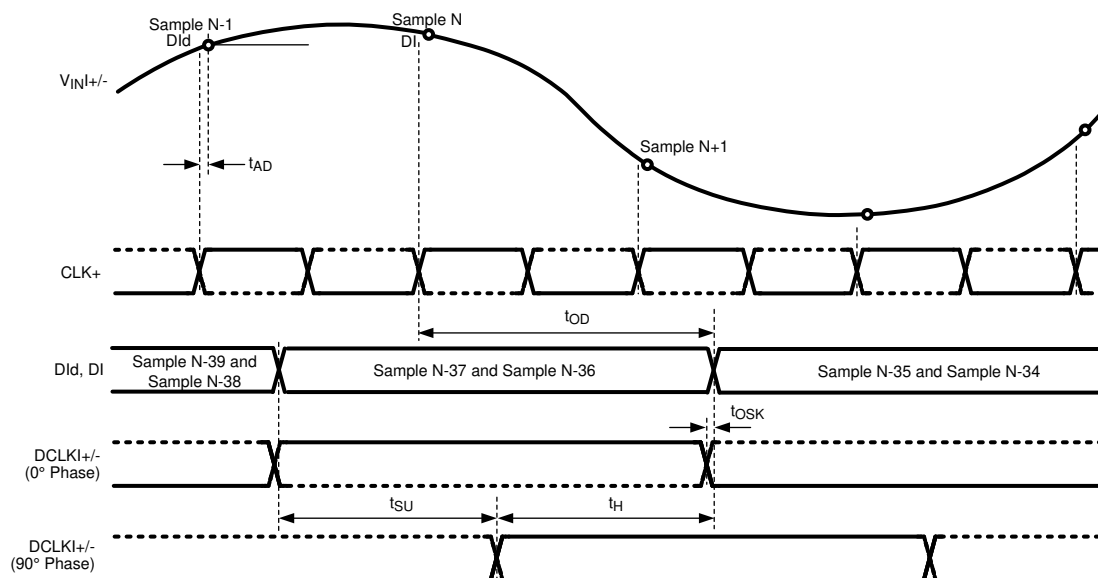
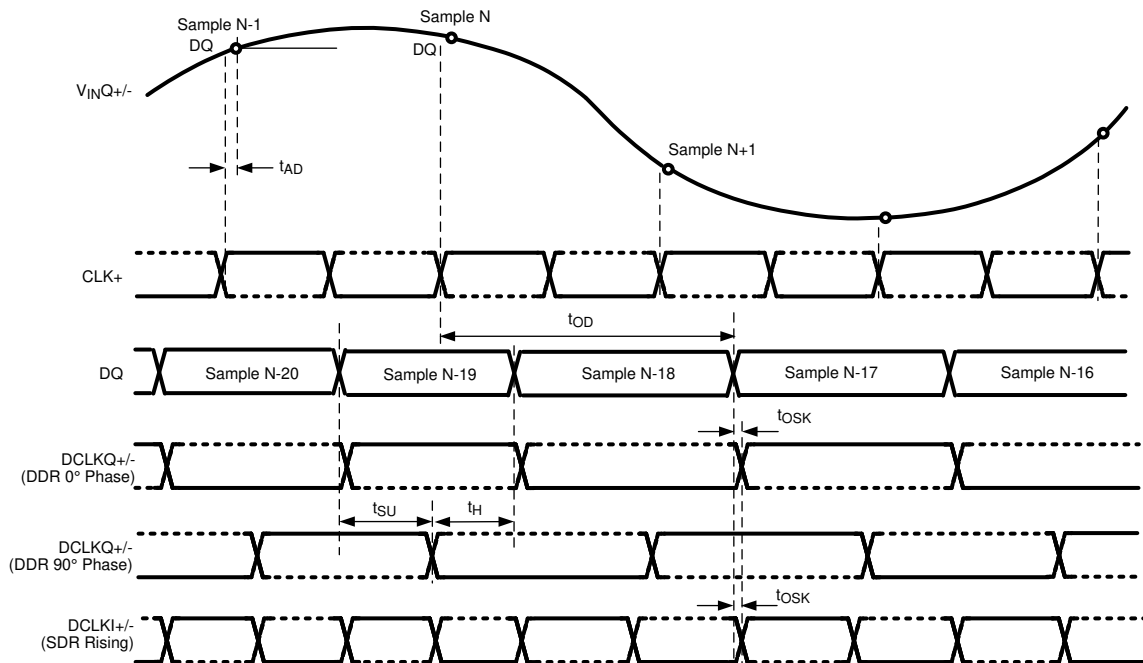

Figure 6-1. Clocking in Non-LSPSM, 1:2 Demux, Non-DES Mode*
Figure 6-6. Clocking in LSPSM, Non-Demux Mode, Non-DES Mode*
* The timing for Figure 6-1 through Figure 6-6 is shown for the one input only (I or Q). However, both I and Q inputs may be used. For this case, the I channel functions precisely the same as the Q channel, with $V_{IN I}$, $DCLK I$, $D I_d$, and $D I$ instead of $V_{IN Q}$, $DCLK Q$, $D Q_d$, and $D Q$. Both I and Q channel use the same CLK.